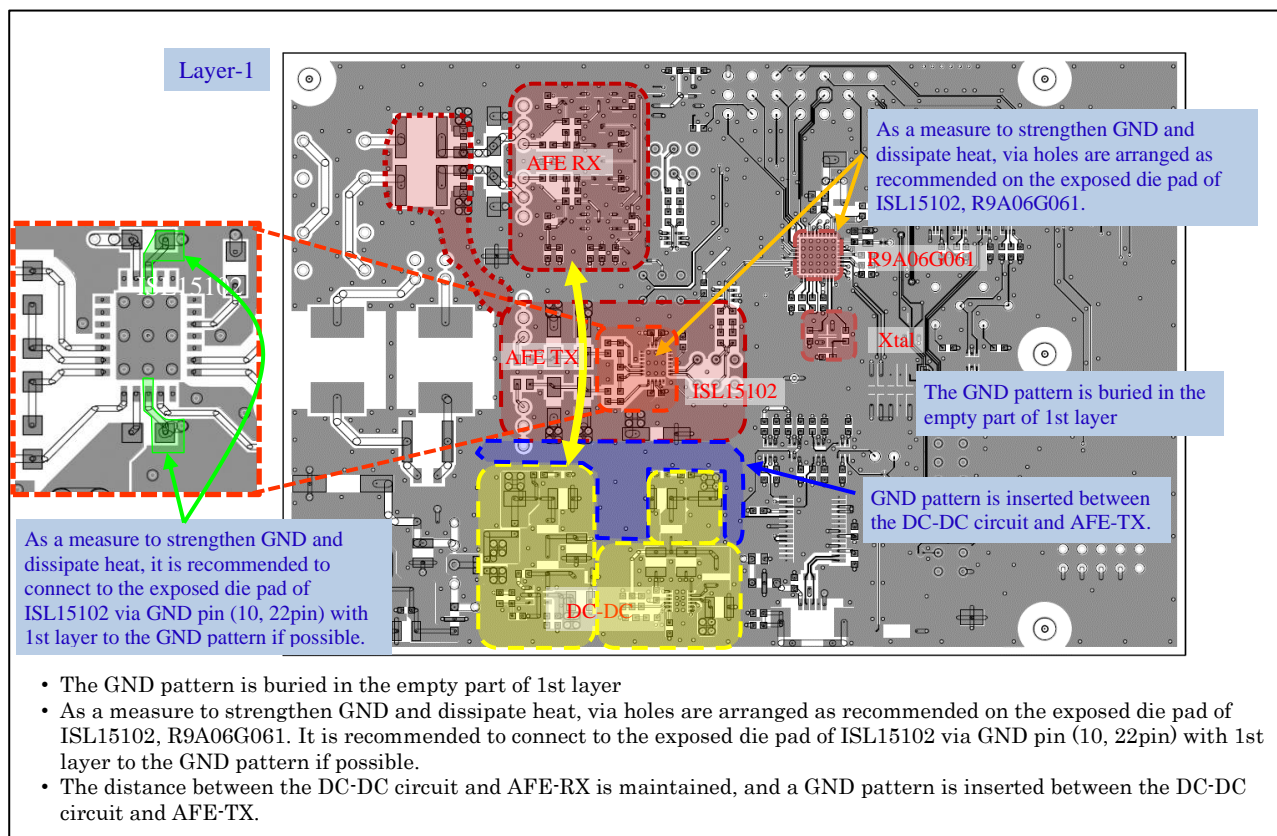

Figure 5-2 Example of connection between exposed die pad of R9A06G061 and ISL15102 and GND pattern (1st Layer)
- In the 1st layer, connect the Exposed die pad of ISL15102 to the GND plane of the first layer as much as possible to improve heat dissipation. (An example is shown in Figure 5-2.)